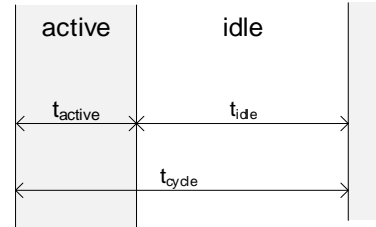

Figure 6: Timing of a Power Cycle
3. **ASC (Automatic Sampling Cycle):** The device automatically switches between active and idle mode. Figure 6 shows a cycle.